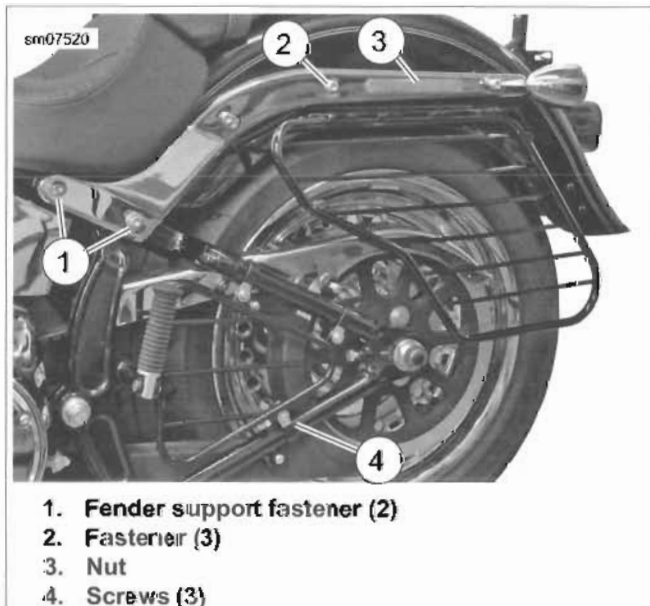

Figure 2-140. Left Saree Guards
1. See Figure 2-140. Loosen fender support fasteners (1).
2. Remove three fasteners (2).
3. Remove nut (3) located behind strut cover.
1. See Figure 2-140. Set upper saree guard into position. Install nut (3) finger-tight.
2. Loosely install three fasteners (2).
3. Tighten nut (3) to 21-27 ft-lbs (28.5-36.6 Nm).
4. Tighten fasteners (2) to 21-27 ft-lbs (28.5-36.6 Nm).
5. Tighten fender support fasteners (1) to an initial torque of 30-35 ft-lbs (40.7-47.5 Nm). Loosen fasteners and final-tighten to 38-42 ft-lbs (51.5-56.9 Nm).
1. See Figure 2-140. Remove screws (4).
2. See Figure 2-140. Install screws (4) with washers. Tighten to 21-27 ft-lbs (28.5-36.6 Nm).